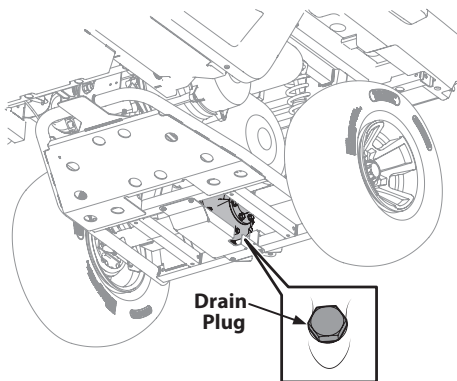

Figure 4-6
4. Access drain plug on underside of machine and remove plug. See Figure 4-6.